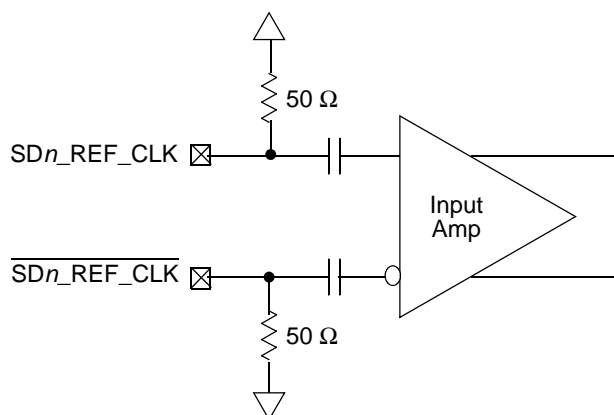

Figure 44. Receiver of SerDes Reference Clocks
Figure 44 shows a receiver reference diagram of the SerDes reference clocks. Characteristics are as follows:
- The SDn_REF_CLK and $\overline{SDn_REF_CLK}$ are internally AC-coupled differential inputs as shown in Figure 44. Each differential clock input (SDn_REF_CLK or $\overline{SDn_REF_CLK}$) has on-chip $50\text{-}\Omega$ termination to $SGND_SRDSn$ ($xcorevss$) followed by on-chip AC-coupling.